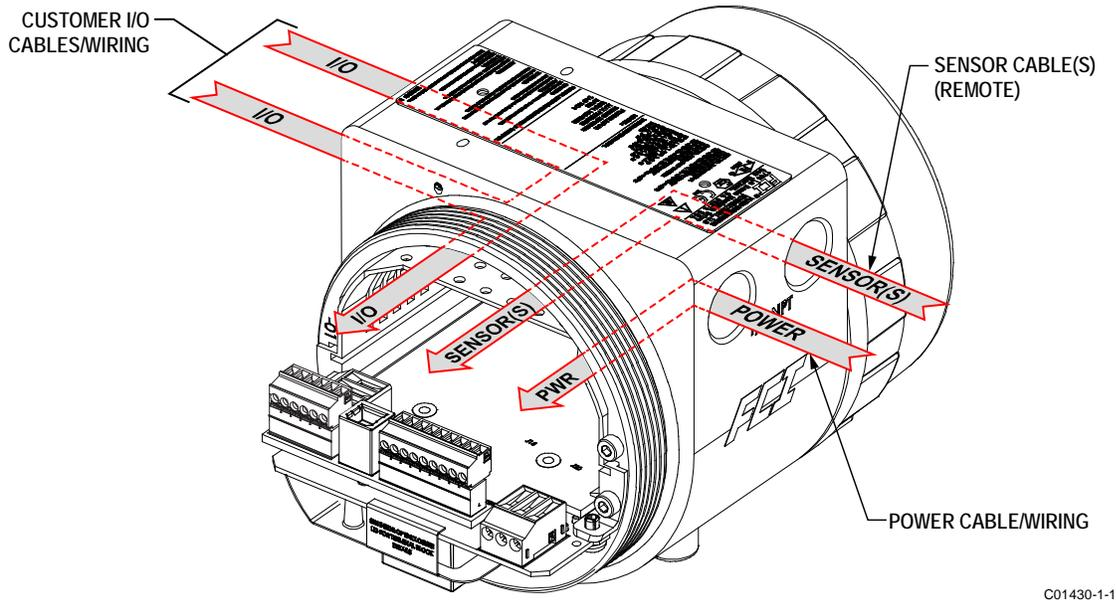

Figure 15 – Recommended Wiring Routing, Base Electronics Enclosure
All cable glands and conduit fittings must meet or exceed the area approval rating where the instrument is being installed. The base electronics enclosure has two wiring ports (1/2"-14 NPT or M20 x 1.5) on both sides of the enclosure body (local enclosure options excluded). The recommended instrument wiring routing is shown in Figure 15 below.
2. Route sensor wires through remote enclosure's wiring port/cable gland. Refer to Figure 15, page 20.